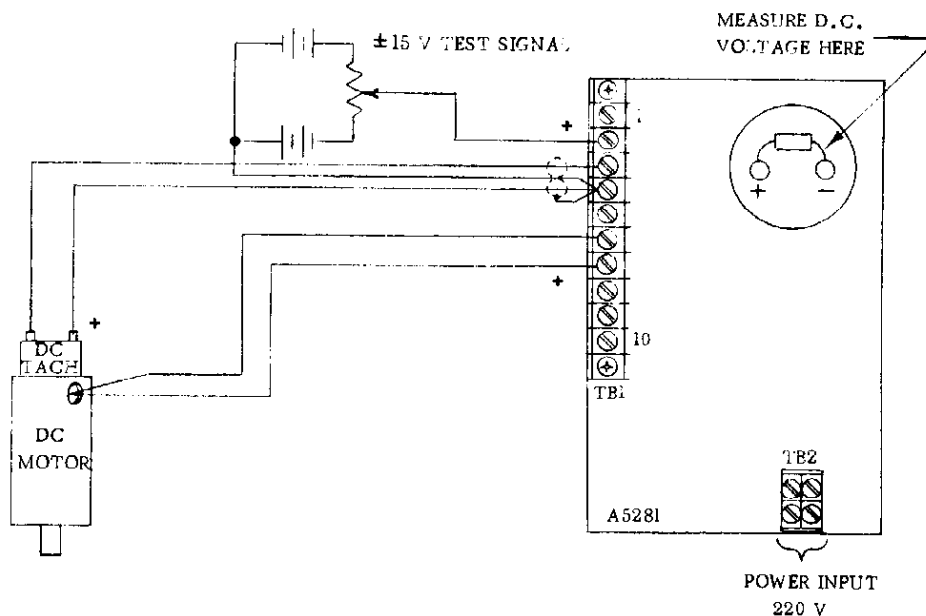

Fig. 1
**WIRING:** Connect the amplifier as shown in Fig. 1, General Installation Drawing and in accordance with the detail installation drawing provided with the amplifier.
1. Connect the amplifier in accordance with Fig. 1 and the specific Installation Drawing.